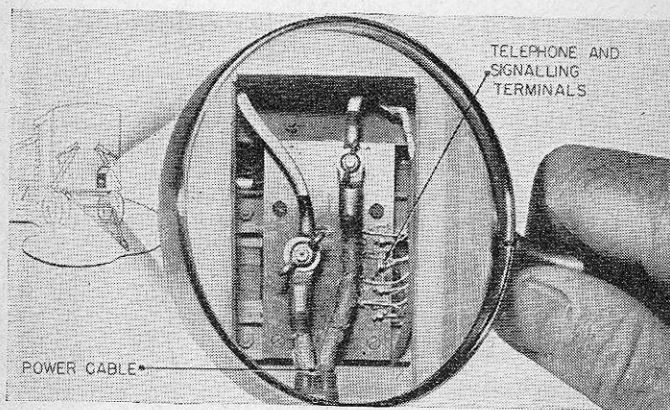
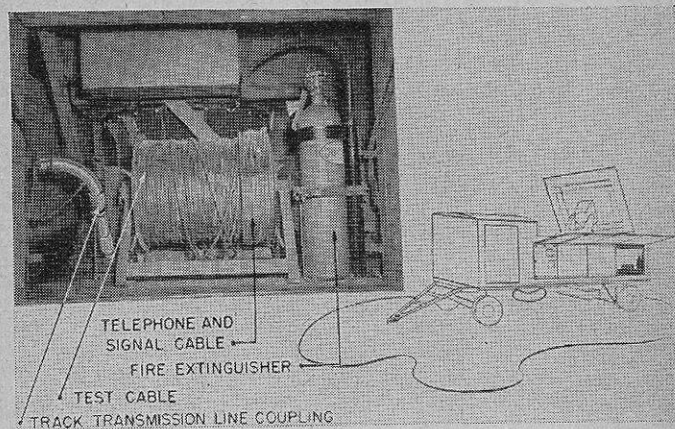

FIGURE 29.—Power junction box.
FIGURE 30.—Cable compartment on trailer.
b. Power supply.—The 250-foot power cable which is carried in the power truck is provided with lug type terminations. At the trailer end, these lugs are connected to the main power panel in the cab through the POWER JUNCTION BOX (at the front of the trailer) shown in figure 29. The white wire of the cable is always connected to the lower terminal behind the door.
c. Telephone and signaling.—The 300-foot telephone and signal cable which is carried in a compartment of the trailer (fig. 30), is also connected at the POWER JUNCTION BOX (fig. 29) to the two lower pairs of small terminals. The white and green leads connect to the lower pair of terminals. This cable is used between the SCR-545-A and its associated director.